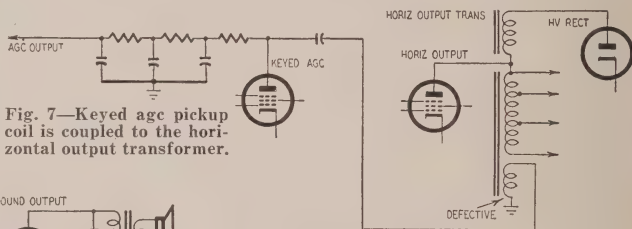

Fig. 7—Keyed agc pickup coil is coupled to the horizontal output transformer.
**e. Age circuit:** Age faults which can cause weak video include: defective age rectifier amplifier tube or clamping diode; change of resistor or capacitor value in age stage or bus; shorted or leaky capacitor in the age bus; age control incorrectly set; defect in age control or associated circuit. In keyed age circuits a defective keyer pulse coil may cause loss of age (Fig. 7).